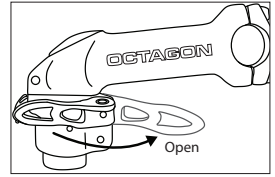

Fig. 48: Open quick release lever.
1. Open the collar quick release lever (Fig. 48).
1. Open the collar quick release lever (Fig. 48)